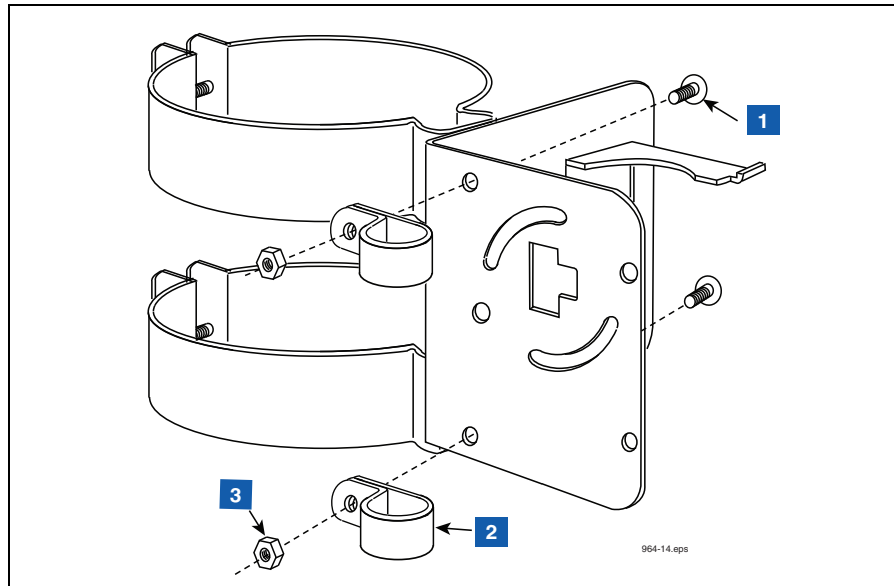

Figure 14. Attaching Conduit Clamps to Battery Pack Support Bracket
2. Attach two conduit clamps to the battery pack support bracket as shown in Figure 14. Do not tighten screws at this time.
LEGEND FOR NUMBERED BOXES IN Figure 14